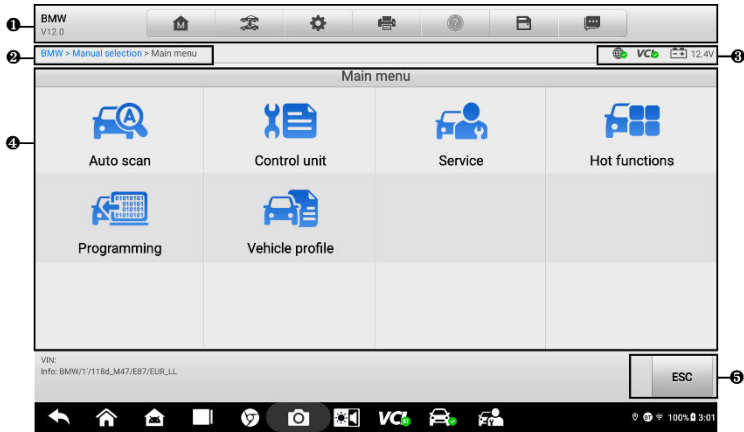

Figure 4-9 Main Menu Screen
The Main Menu screen (see Figure 4-9 Main Menu Screen) navigates users to perform read codes, clear codes, or perform comprehensive automotive diagnostics functions, and so on. After the function is selected, the tablet will establish a communication with the vehicle through the VCI device, and enter the corresponding function menu or selection menu based on your selection.
1. Tap the **Diagnostics** application button on the MaxiSys Job Menu. Choose the corresponding vehicle information and enter the Main Menu screen. (See Figure 4-9 Main Menu Screen.)